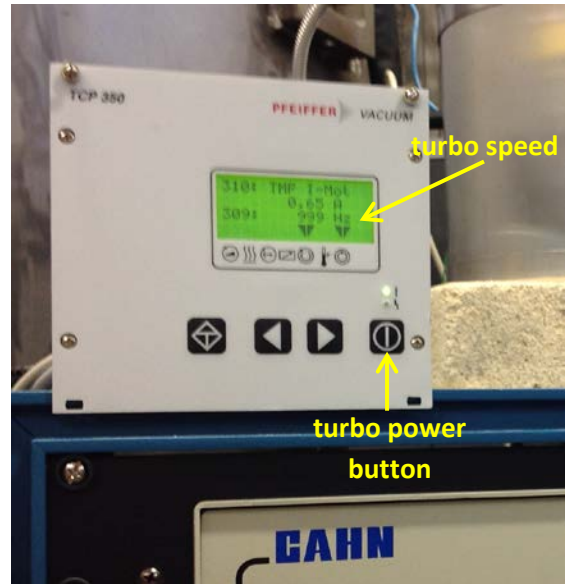

Figure 2. Turbo-pump controller.
- a. Press the power button on the turbo pump controller, as in Figure 2, and wait for it to spin down to 0 Hz (5-10 min).